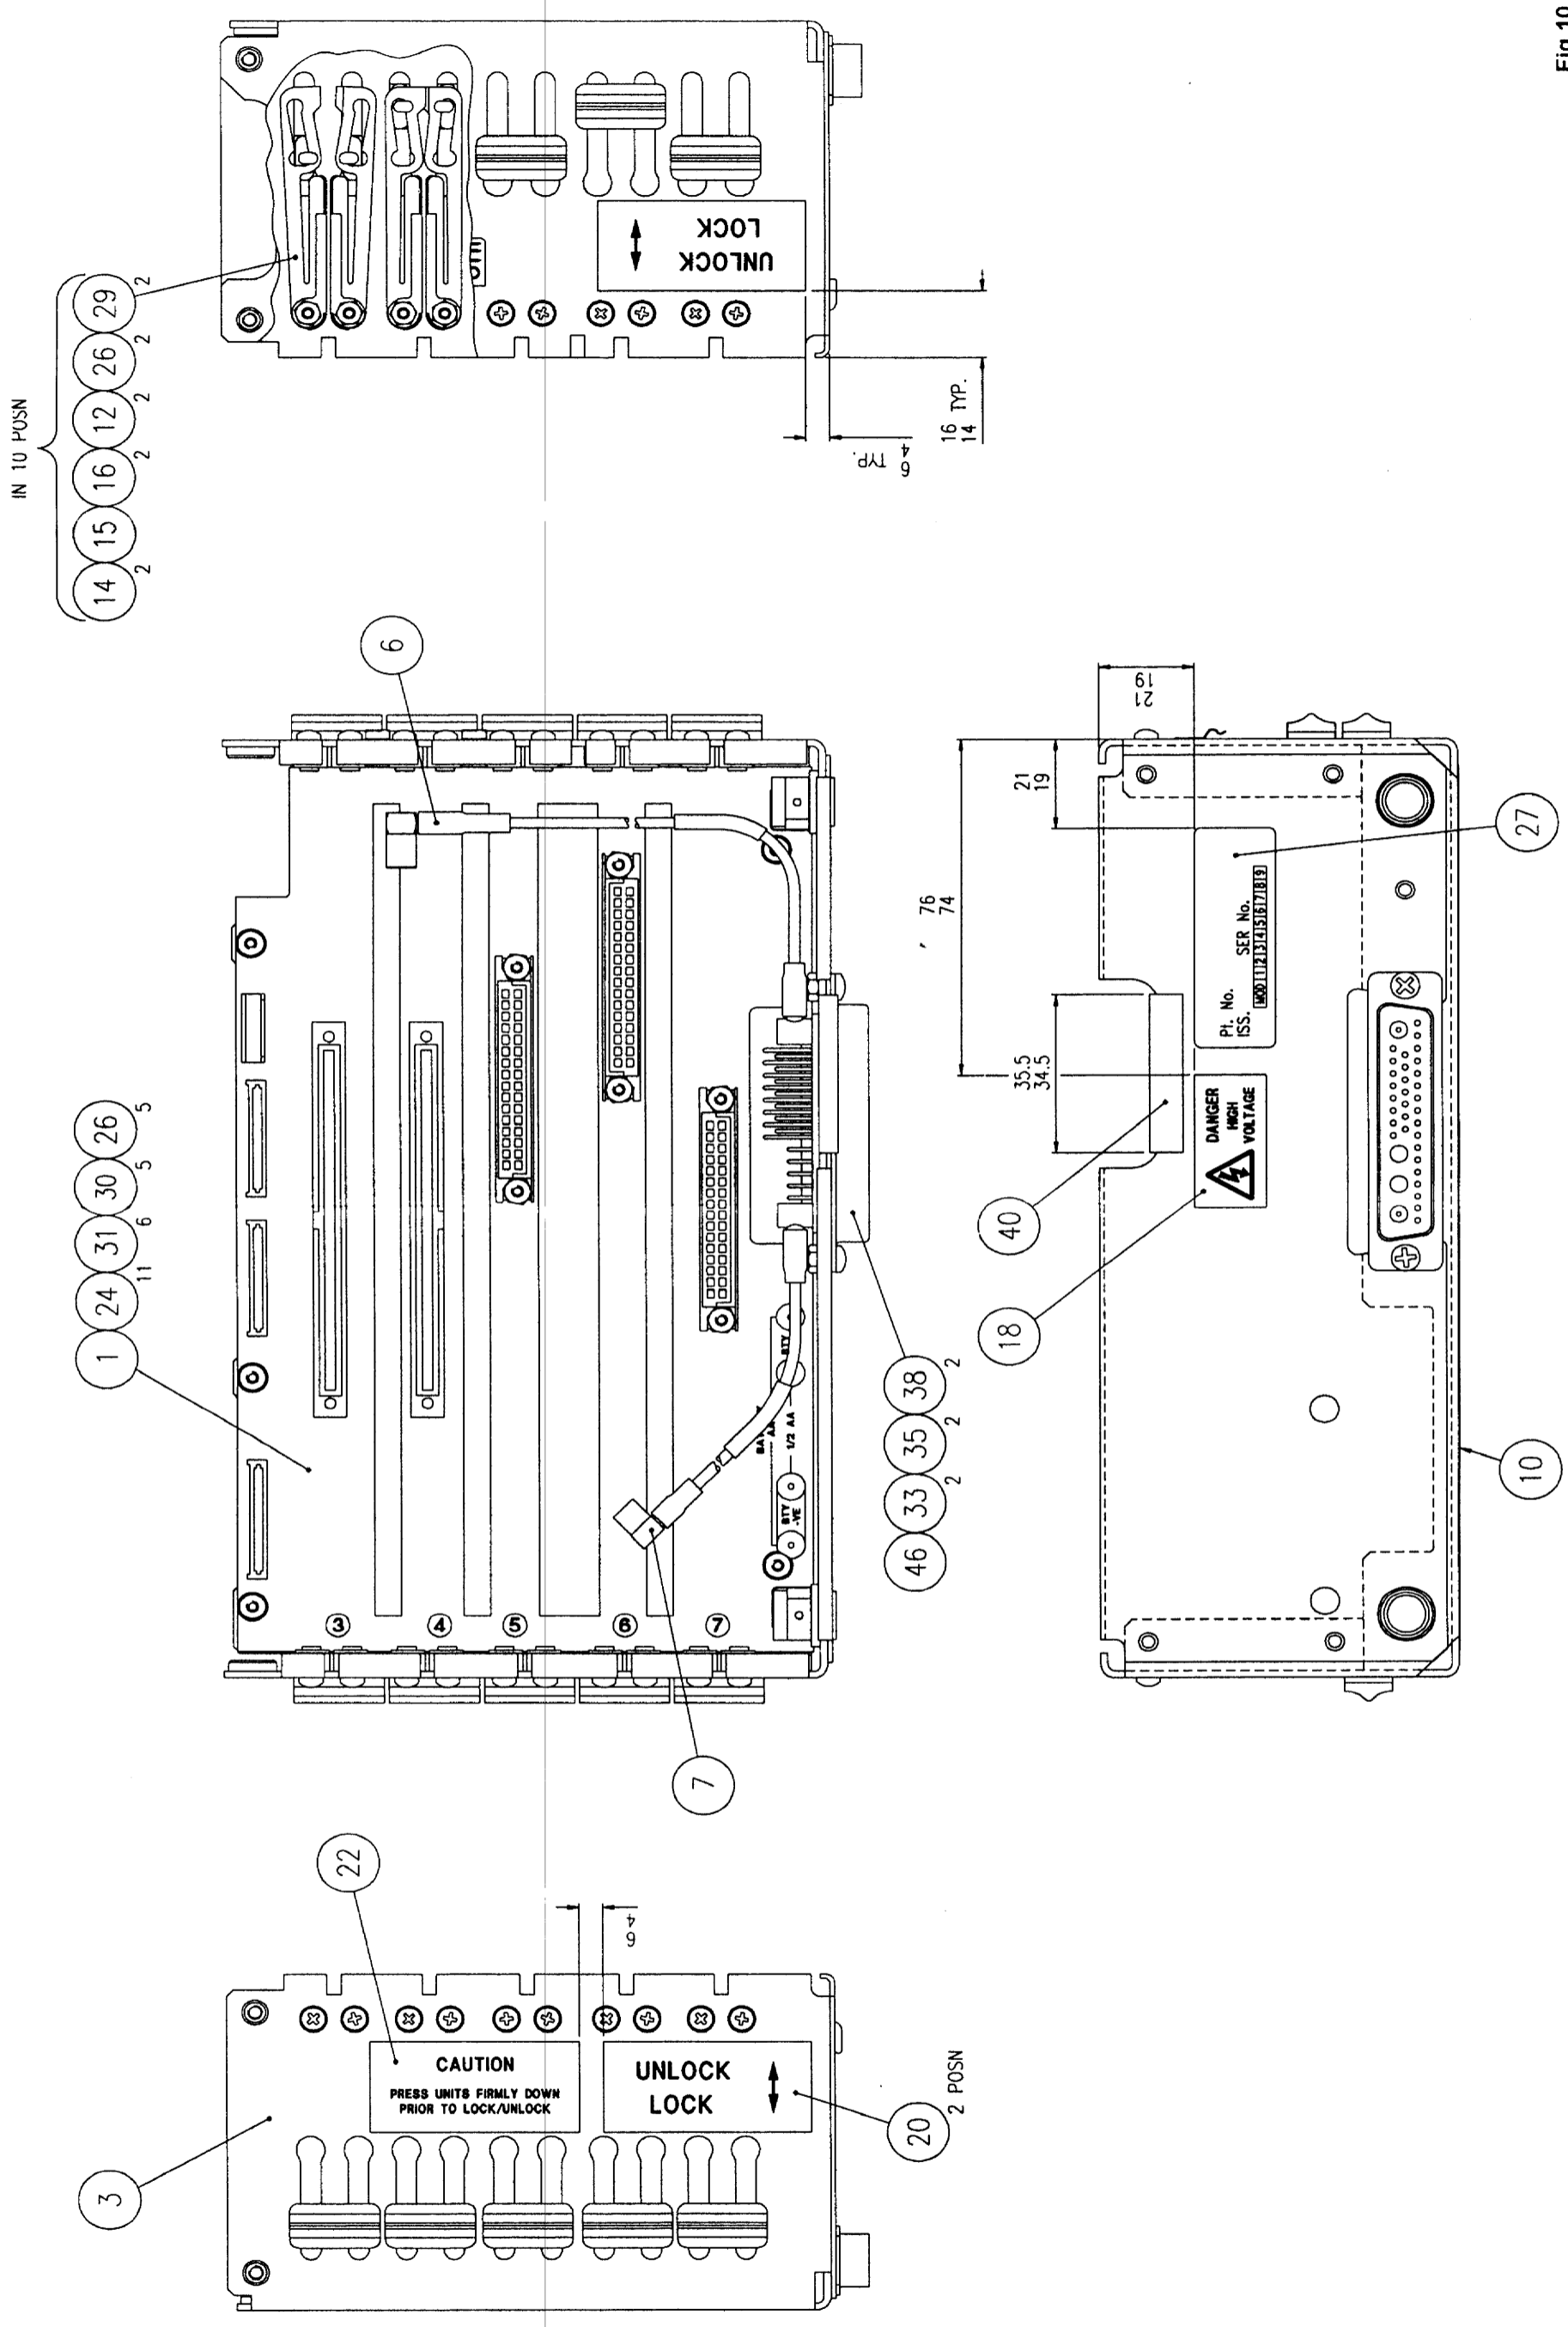

Fig 10.7
**CHASSIS AND MOTHERBOARD ASSY UNIT 2 (FIG 10.7)**